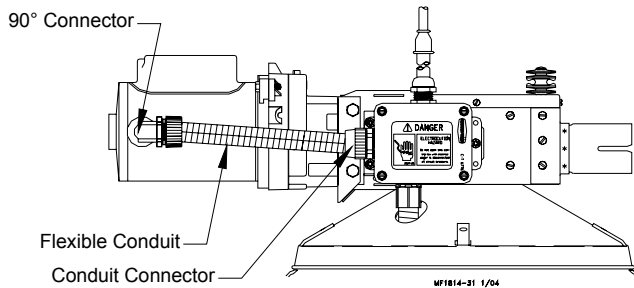

Figure 32. Conduit Installation
6. Single Phase: Install the 90 degree connector, flexible conduit, electrical wire, and conduit connector as shown in **Figure 32**.